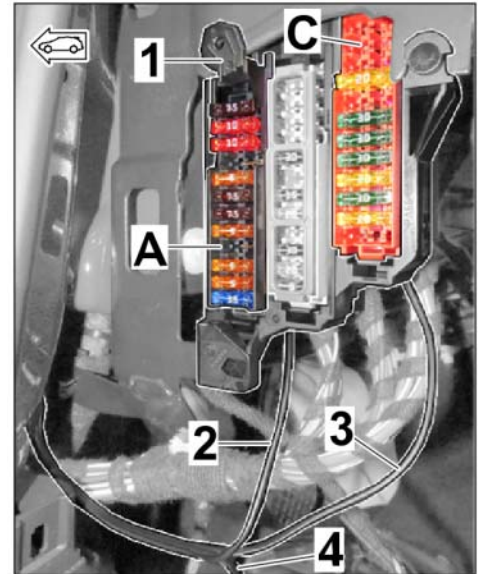

Figure 15 (LHD vehicle)
3.2.3 Connect power supply as shown in the table (⇒ *Figure 15 (LHD vehicle)*).